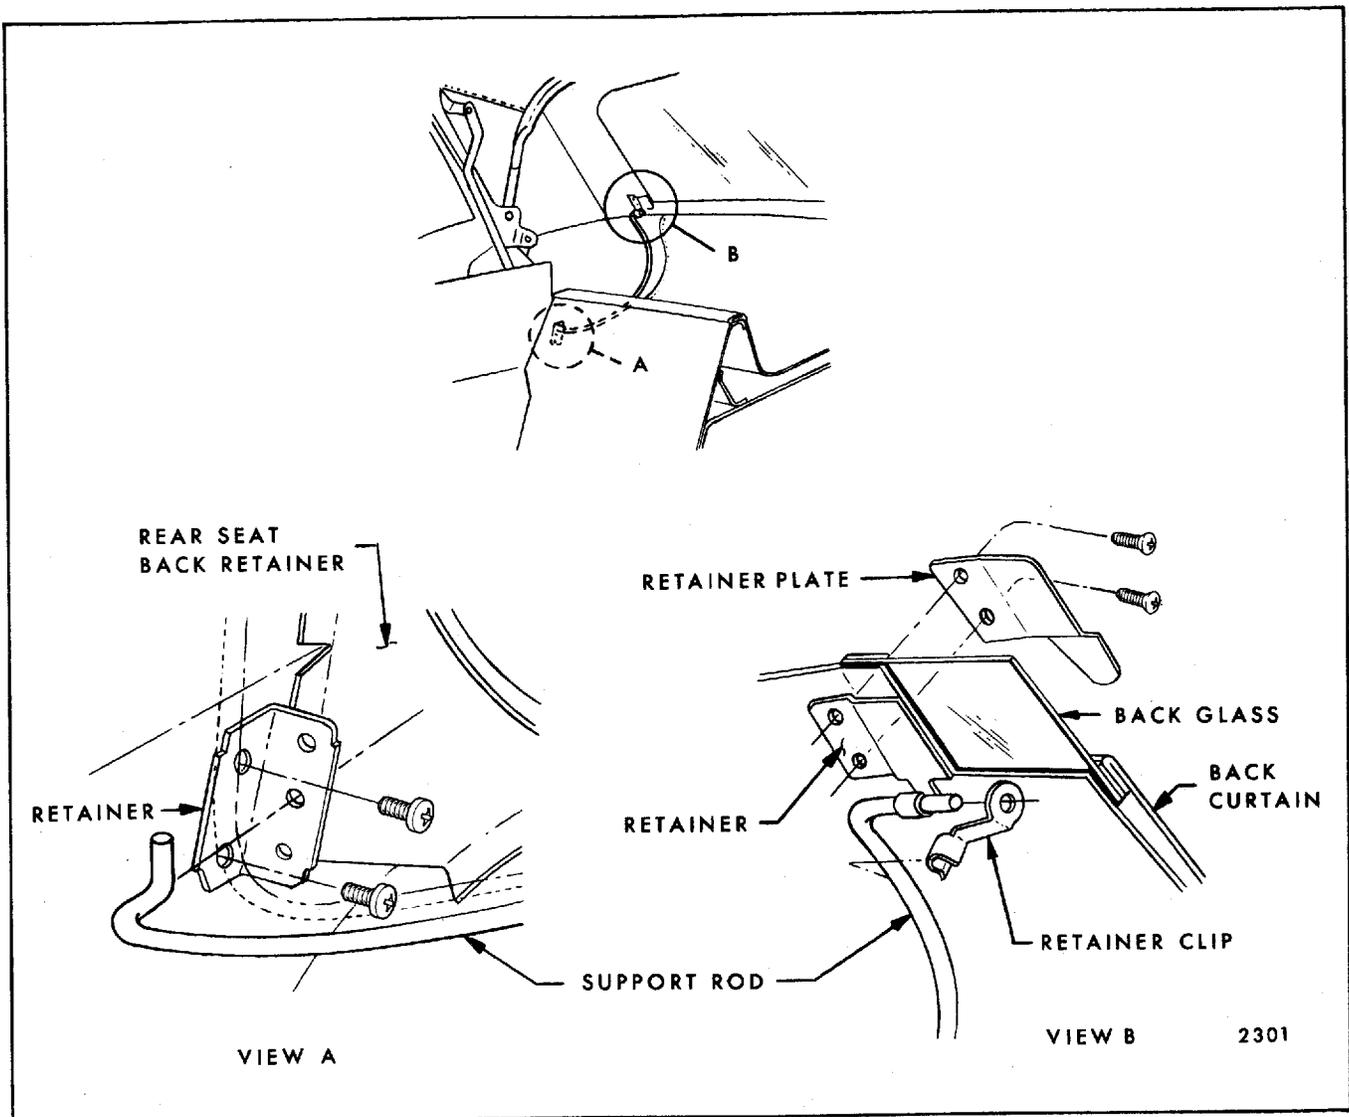

Fig. 6-1—"B &amp; C" Body Back Glass Support Rod Attachments
6. On styles equipped with back glass support rods, disengage right and left rods from back curtain (Fig. 6-1).